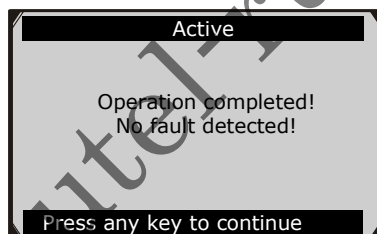

Figure 11.23
- 2) In the Active menu, use the **UP/DOWN** button to select the desired actuator to begin test. If the selected actuator works correctly, the tool will display a confirmation message as below (Figure 11.23). Otherwise, it will display a message to remind user of a problem. After you exit the diagnosis program, please repair the problem immediately.